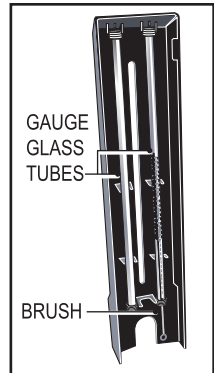

Figure 1
2. The sight glass guard contains two extra glass tubes for replacing a broken gauge glass. These are held in slots designed into the guard that run the length of the guard (see fig. 1).